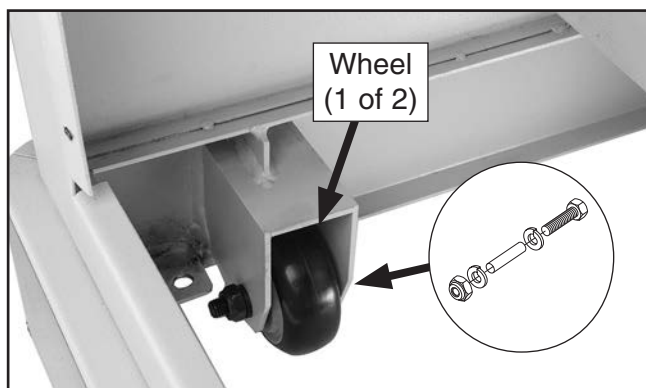

Figure 14. Wheel installation at backside of cabinet.
5. Attach (2) wheels to backside of cabinet with pre-installed hex bolts, lock washers, lock nuts, and wheel sleeves (see **Figure 14**). With help from an assistant, remove wood blocks and lower machine.